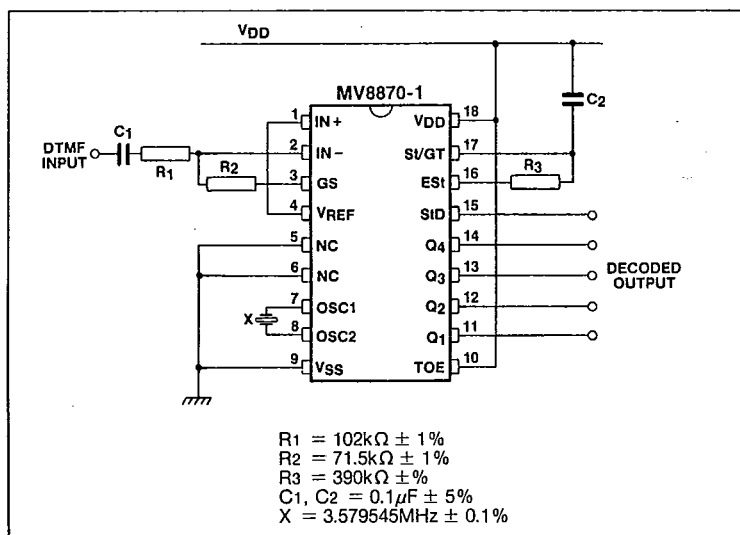
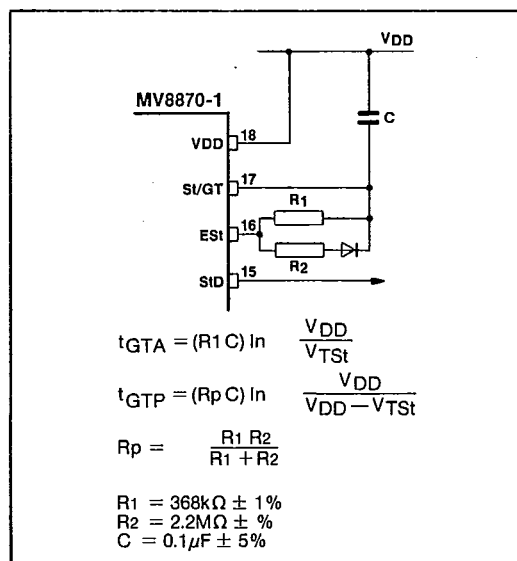

Fig. 11 Single ended input configuration for BT or CEPT spec
Fig. 12 Non-symmetric guard time circuit
The circuit shown in Fig. 11 illustrates the use of the MV8870-1 in a typical receiver system. The BT specification defines the non-operate level as input signals below -34dBm. This is obtained by choosing R1 and R2 to give 3dB of attenuation so that an input of -34dBm corresponds to -37dBm at the op. amp. output pin (GS). The tolerances on R3 and C2 give a tolerance on guard time of 6%. For better performance the non-symmetric guard time circuit shown in Fig. 12 is recommended.
12. Referenced to Fig.11. Input DTMF Tone Level at -25dBm (-28dBm at GS pin). Interference Frequency Range is 480 to 3400Hz.